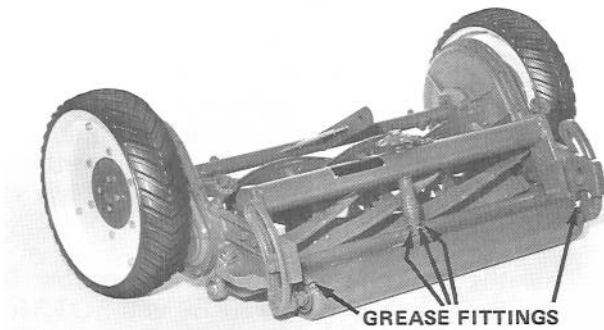

Figure 16
2. The mowers should be greased every 8 hours of operation with Texaco Marfak Heavy Duty 2 wheel bearing grease or equivalent, to obtain maximum life. This grease can be used on all greasing points (Fig. 16) on the SPARTANS. When pressure is felt while greasing the roller, bearing cavity between seals is full. DO NOT CONTINUE